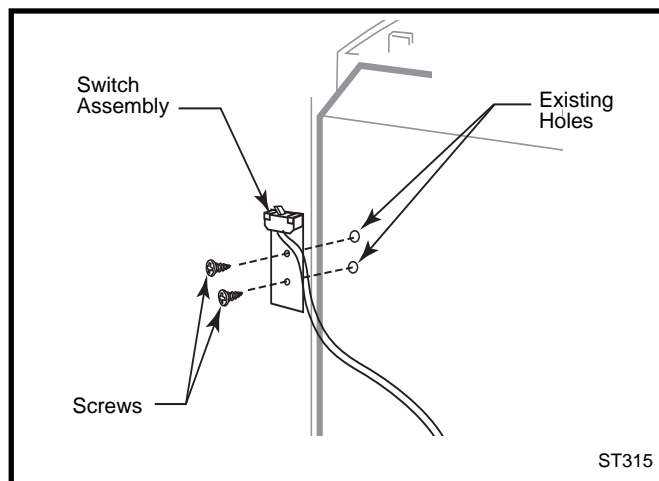

Fig. 47 Attach switch assembly to rear shroud.
1. Attach switch assembly to left rear side of stove shroud (when facing shroud) using two screws and existing holes in shroud. (Fig. 47)